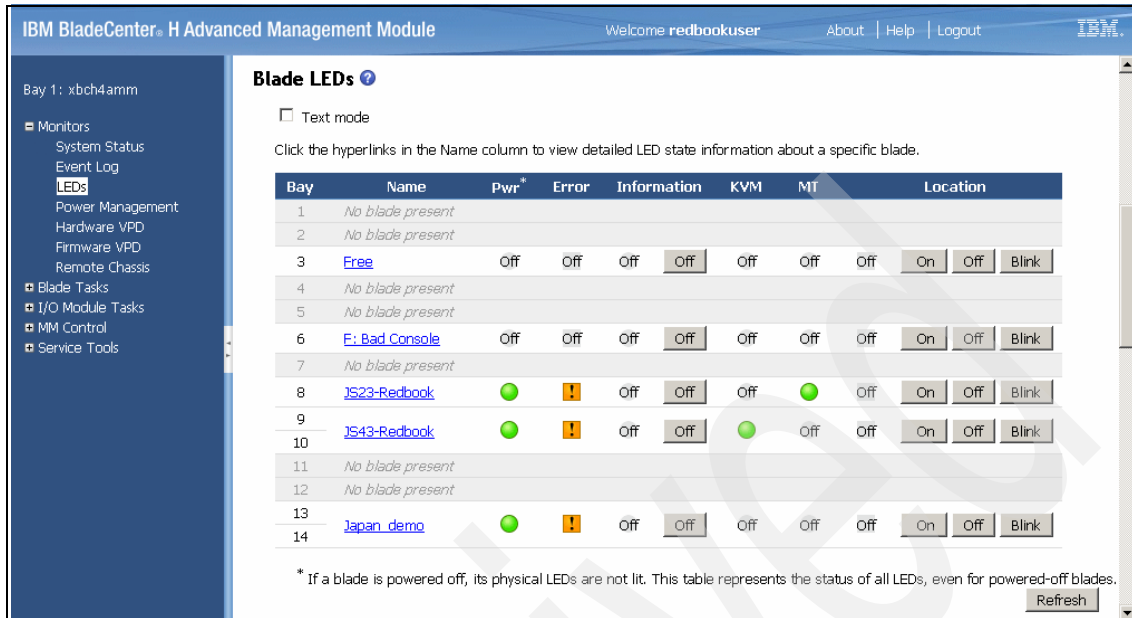

Figure 12-11 AMM BladeCenter LEDs control and status page
2. Select **Monitors** → **LEDs**. Figure 12-11 on page 468 shows the LEDs monitoring page in AMM.